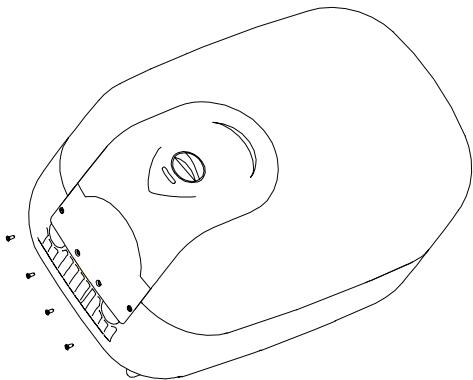

FIGURE 8.
3. Using a Philips screwdriver, unscrew the bottom screw securing the outer door, see Figure 8.